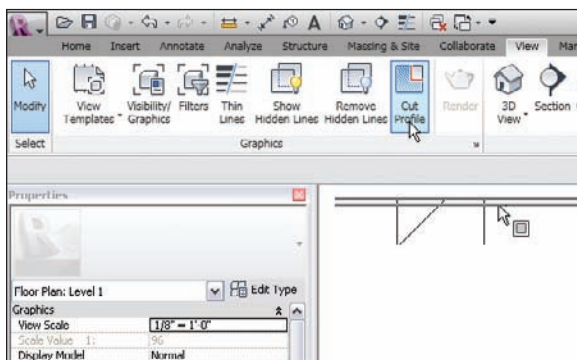

FIGURE 2.61 Click the Cut Profile button and select the gypsum.
6. On the Graphics panel of the View tab, click the Cut Profile button, as shown at the top right of Figure 2.61.
7. Pick the finish face of the exterior wall. You are selecting the gypsum layer to be cut out of the shaft (see Figure 2.61).